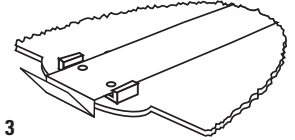

Fig. 3
4. Slide pushbutton under lock spring. Insert button through hole in door. **See Figure 3**